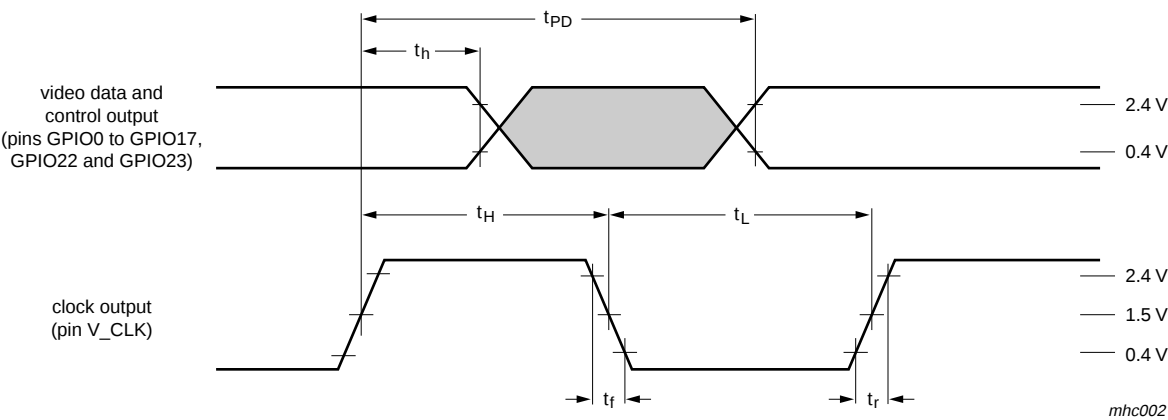

Fig 15. Data output timing (video data, control outputs and raw DTV/DVB)
**Audio-video port outputs (digital video stream from comb filter decoder or scaler, digital audio from sound decoder or baseband audio inputs via I2S-bus)**LLC and LLC2 clock output on pin V\_CLK; see Figure 15
Video data output with respect to signal V\_CLK on pins GPIO0 to GPIO17, GPIO22 and GPIO23; see Figure 15